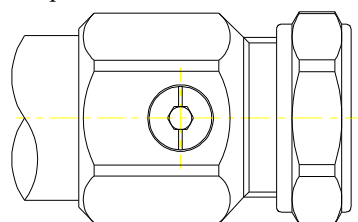

Fig 3. orientation of slot in Shut off position.
- * Turn both isolating balls (28) to shut off both Hot and cold supplies (see fig. 3.)
- * Unscrew isolator nuts (28) from body (17), unscrew grub screw from backplate and remove valve assembly from wall and isolating adaptors.
- * Remove filters from isolating adaptors (28) and rinse through with cold water to remove any debris.
- * Remove knob insert (1) undo and remove retaining screw (2). Remove control knob (3) , plain ring (6) and sleeve (4), exposing head assembly.
- * Remove head (5) from body (17) by using a 29mm A/F spanner, and remove bottom cap (21), piston assy (19) together with thermostat (15) and return spring (20). N.B. The piston assy (19) can be dismantled further, but is not necessary for general cleaning / servicing.